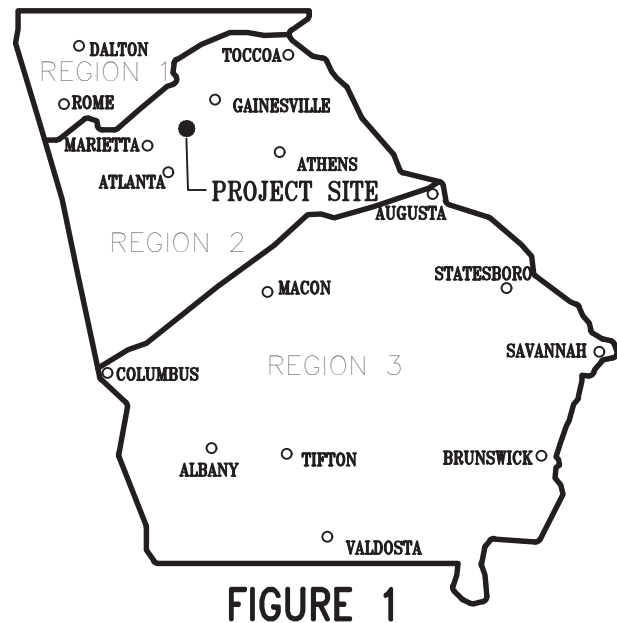

FIGURE 1
1. See Figure 1 to select appropriate region.